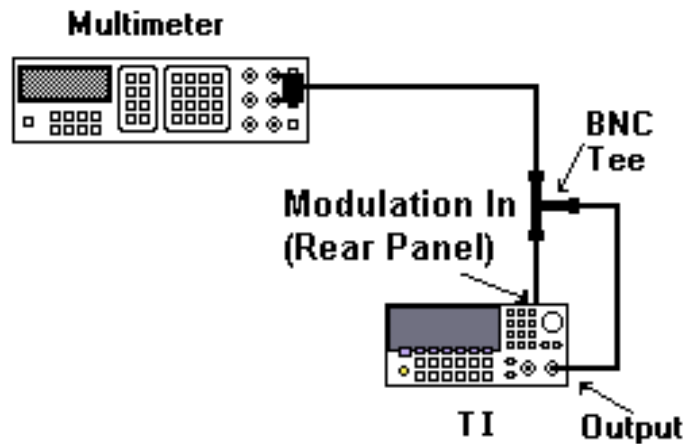

Figure 1. ADC adjustment hookup.
(5) Disconnect frequency counter from TI and connect equipment as shown in figure 1 below.